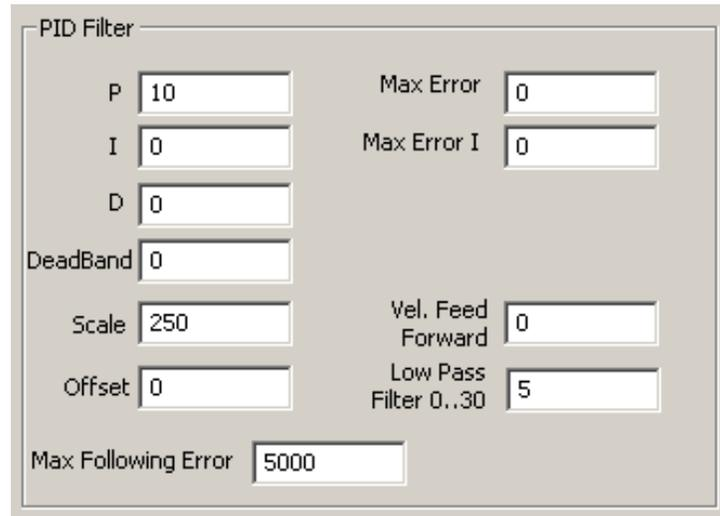

Figure 52 PID Parameters
1. Set the Scale to 1000, P to 1000, Max Following Error to 5000, and Low Pass Filter to 5. Set all other parameters to zero. See Figure 52 PID Parameters.